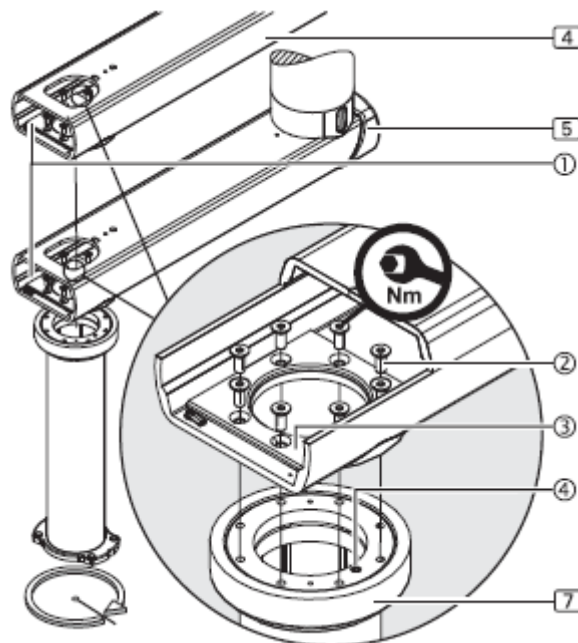

Fig. 37 Assembly of drop tube on NON-motorised arms
- Insert the fixing plate 8 x M10 ③ from the front side ① into the extension arm (4), (5) and fit it.
- Place the drop tube under the extension arm (4) / (5) so that the end stop ④ on the drop tube points away from the side of the extension arm and the fixing holes are aligned.
- In order to be able to rotate the service head counterclockwise, the drop tube must be mounted with the end stop ④ on the right side, as shown in figure 37. It will be mounted on the left side if the service head is to be able to rotate clockwise.
- Fix the drop tube through the 8 x M10 fixing plate ③ and screw it to the extension arm (4), (5) with 8 countersunk Allen screws ②.